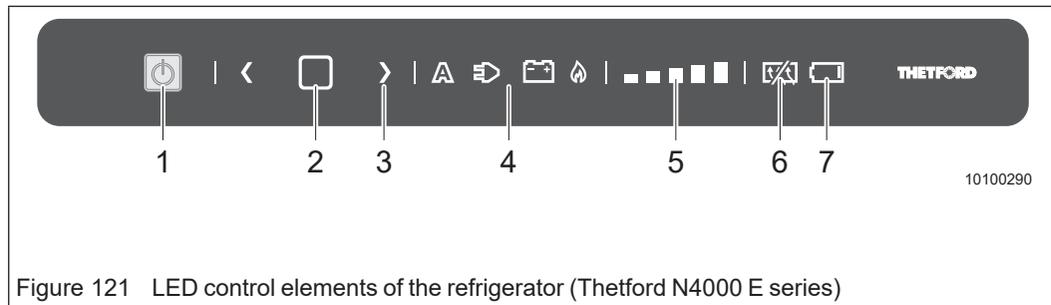

Figure 121 LED control elements of the refrigerator (Thetford N4000 E series)
- ➔ Press and hold the ON/OFF key (Figure 121/1) for one second.
- ➔ Press and hold the confirmation button (Figure 121/2) for two seconds until the energy source icon starts flashing.
- ➔ Use the arrow buttons (Figure 121/3) to select the desired energy source.
- ➔ Use the arrow buttons (Figure 121/3) to select the desired cooling level.